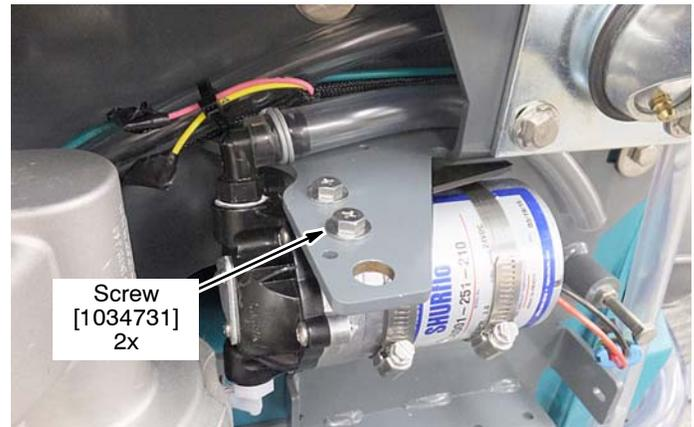

Fig. 40
3. Mount the ec-H2O pump assembly to the machine frame using two M6x1.00x16 hex screws as shown (Figure 40). Route the pump hoses as shown.